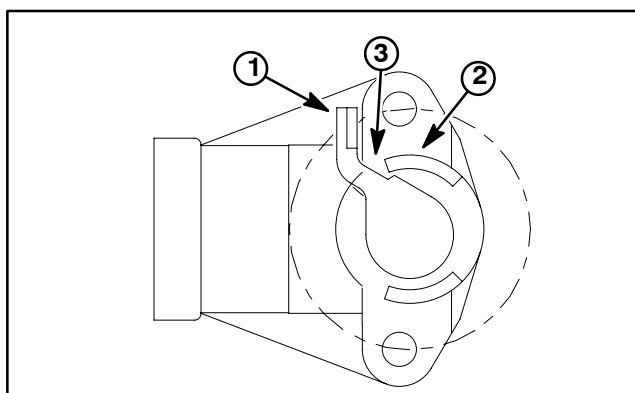

Figure 15
B. With the accelerator pedal fully depressed, the input lever of the potentiometer should not contact the upper stop on the potentiometer body (Figure 15).
A. Loosen two (2) set screws that secure throttle position collar to throttle pedal shaft and reposition collar to allow correct potentiometer movement. Make sure that there is clearance between roll pin and side of potentiometer lever to prevent binding.